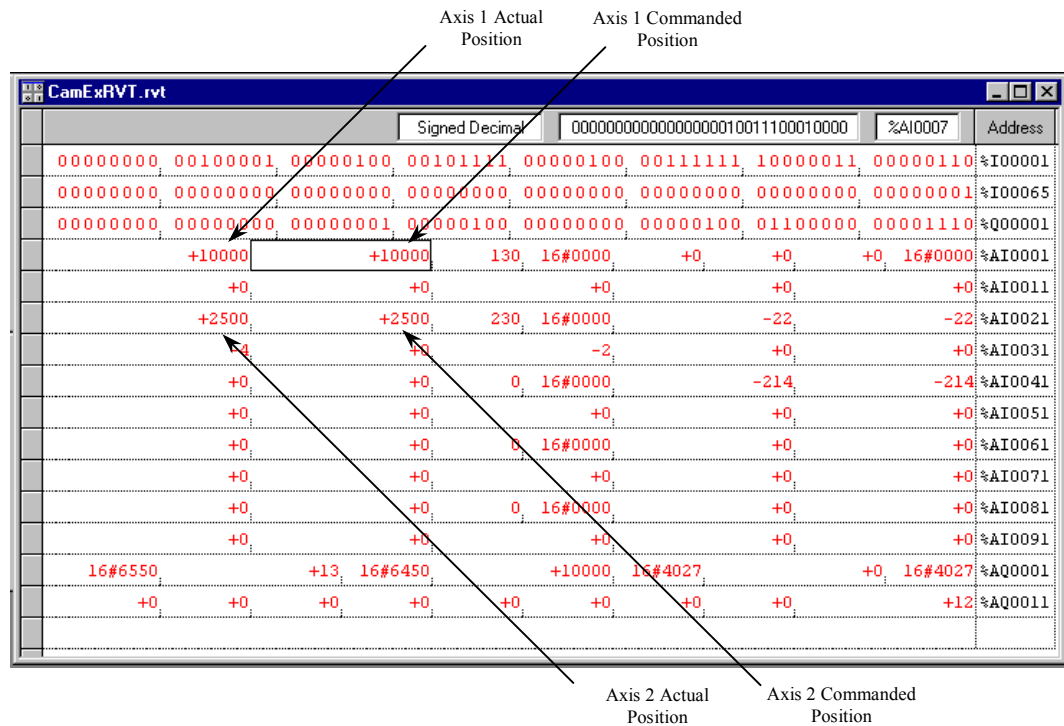

Figure 16-39. RVExample Screen First Dwell
7. The motors will execute the statements until they reach the first DWELL, where you can visually verify that it followed the CAM profile correctly. The display should be similar to Figure 16-39. Notice how the commanded position for Axis#2 equals 2500, while the commanded position for the slave corresponds to the CAM table and has the value 10,000.